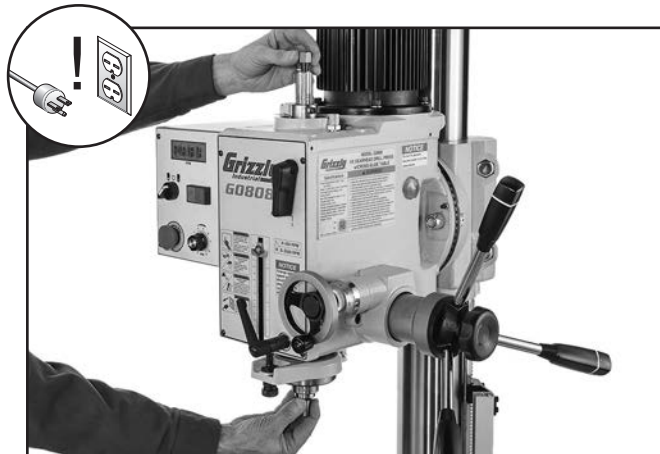

Figure 44. Threading drawbar into tooling.
5. With one hand holding tool in place, insert drawbar into spindle from top of head, then thread it into tool by hand until snug (see **Figure 44**).